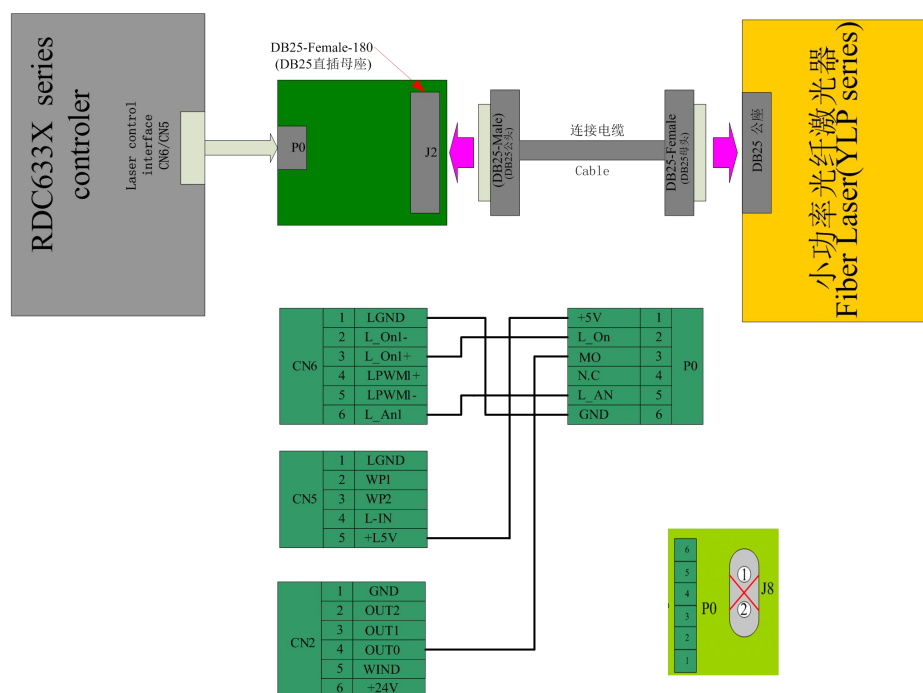

Figure 4.2 Schematic Diagram of RDC633X series controller and low power terminal board
**Figure 4.2:** The Schematic Diagram is applied to RDC633X series controller, and the wiring is used for laser MO external controlled. The MO terminal receives signal output from OUT0 controller and controls MO dynamically. In this case, short circuit block of J8 must be cancelled; otherwise, the low power fiber laser cannot be controlled by external MO.